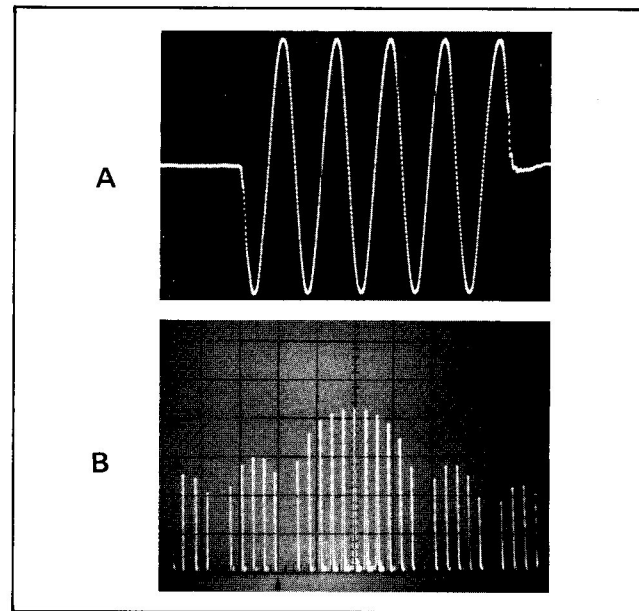

Figure 8. Pulse Modulator Output
24. Figure 8 shows the output of a typical Model 10534A Mixer used as a pulse modulator. Input signals to the Mixer are 30 MHz, 5 mw at L and pulses 0.165  $\mu$ sec wide, 300 mv high, repetition rate 1 MHz at X. The oscilloscope presentation, Figure 8a, is made with a sweep speed of 0.02  $\mu$ sec/cm and shows the clean rf pulses obtainable. The spectrum analyzer display, Figure 8b, presents the pulse modulator output on a log vertical scale
pulse, to have a good shape, requires components at least to the 10th harmonic. In the example given in Figure 8 the 1 MHz repetition rate causes harmonics of 1 MHz and up; the rectangular pulse  $10^{-7}$  second wide causes the signal to have components of 10 MHz at least through 100 MHz. The spectrum presented in Figure 8b shows the relative levels of the carrier and signals to  $\pm 17.5$  MHz away from carrier frequency.